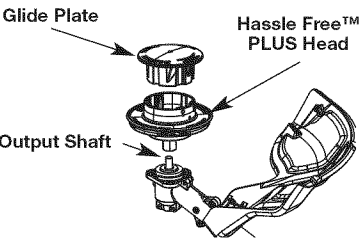

Fig. 20
- Place the cutting head onto the output shaft and turn counterclockwise until finger tight. (Fig. 20)
- Use a 1/2 in (13 mm) wrench to remove the cutting head from the output shaft on the gearbox by turning clockwise. (Fig. 20)